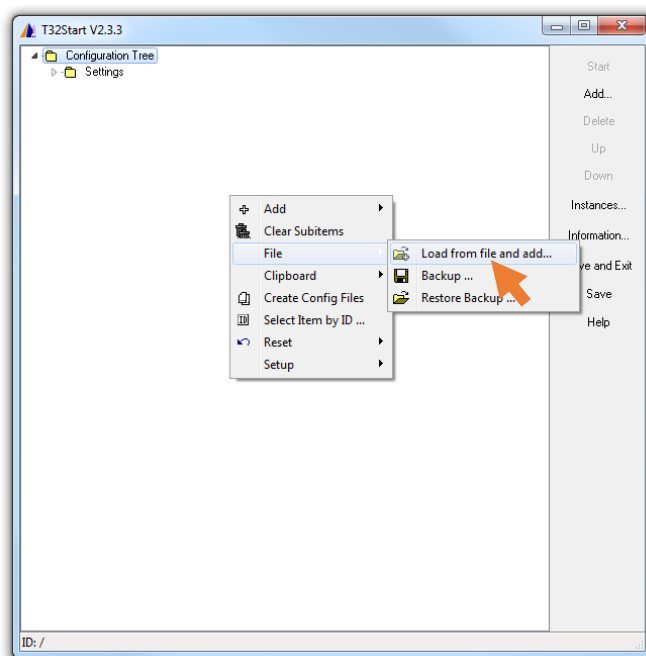

Figure 6 T32Start configuration setup
- a. (optional) Or open the T32Start, right click to the blank area, choose "File->Load from file and add" and select this file (Figure 6)